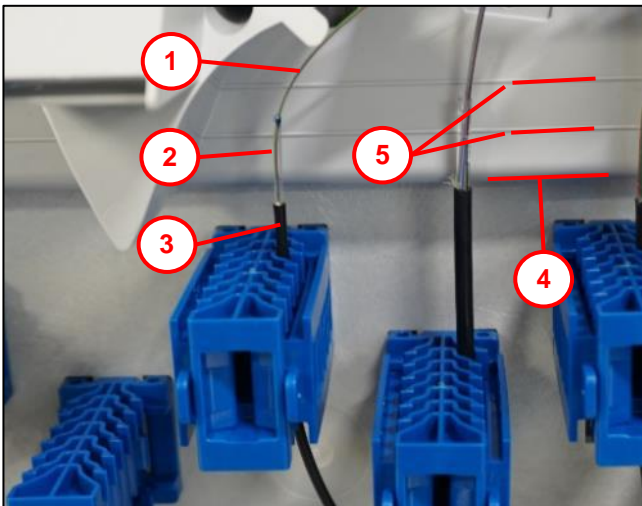

Fig. 36
- Press the micro cable (1) into the clamping points (2), referring to Fig. 36 for the length to be stripped above the clamping points.
- Insert the cover (3). Push the cover back and swivel it fully in until the snap tab (4) audibly clicks into place.